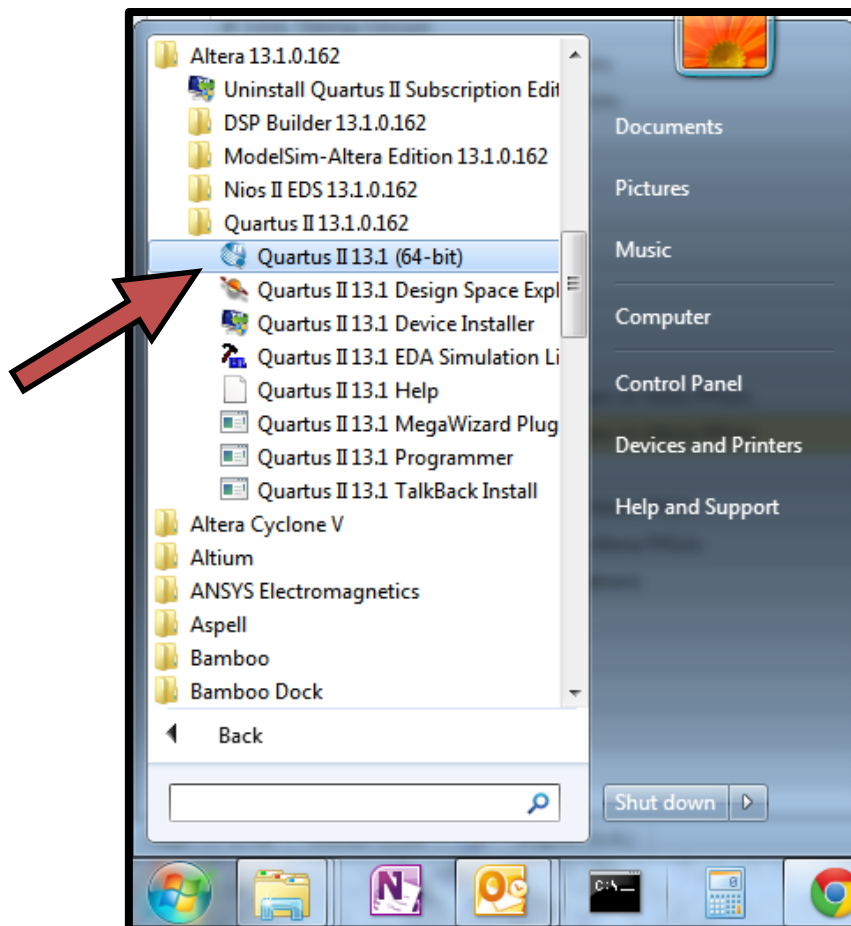

Figure 34: Opening Quartus II
1. Open Quartus II (It may be both, 32bit or the 64bit versions) (see Figure 34).